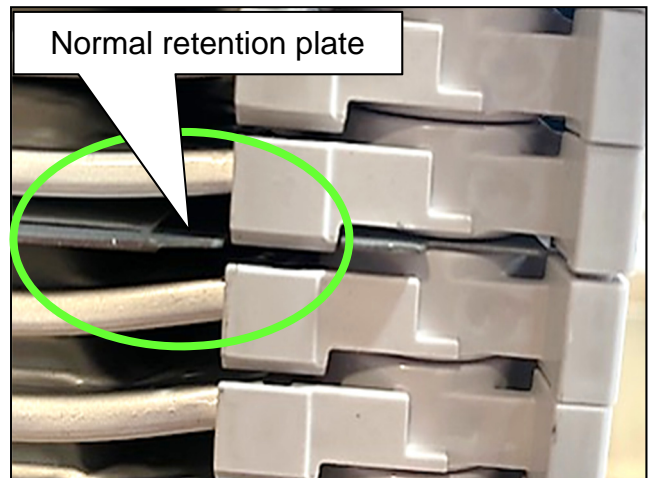

Figure 3
- If the Li-Ion battery module does not have a bent retention plate (Figure 3), this bulletin does not apply. Refer to ASIST for further diagnosis.